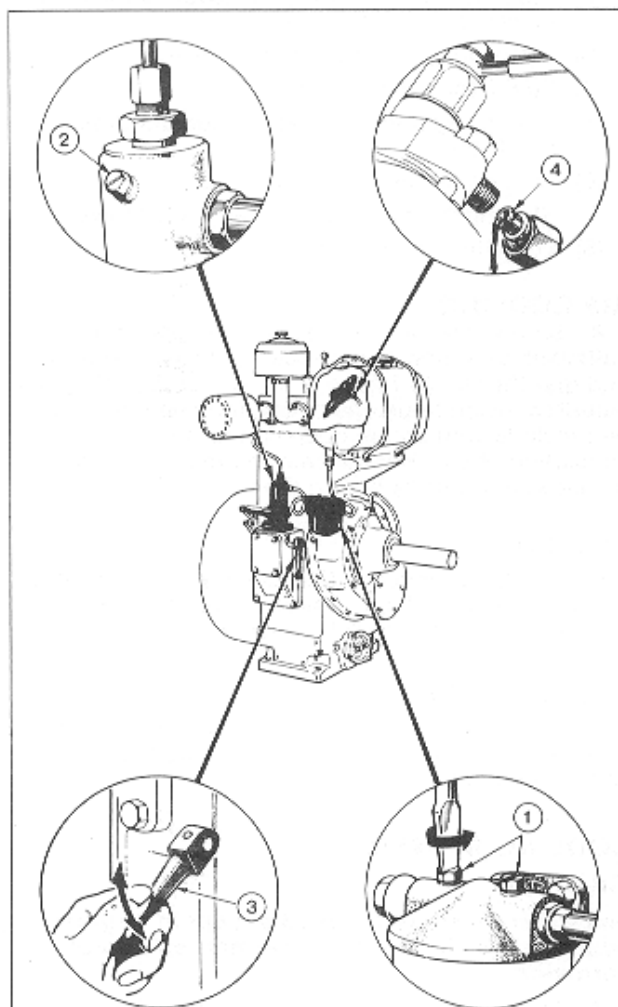

Figure 1.2 Bleeding and Priming the Fuel System
**1.18** To bleed and prime the fuel system, each cylinder (in the case of two cylinder engines) must be done in turn. The flywheel TDC mark must be set for the appropriate cylinder about half a revolution away from the pointer before top dead centre. If a fuel lift pump is fitted fuel will not flow unless the fuel lift pump priming lever is operated. With reference to Figure 1.2 carry out the following procedure: